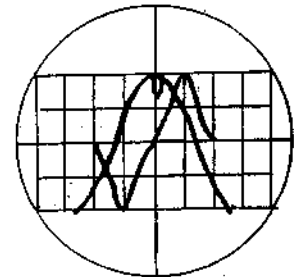

Fig. 7
8. Repeat the alignments of 6 & 7 and finally make sure that the IF peak and center point of the "S" curve will exactly coincide with 10.7MHz marker (Refer to Fig. 7).